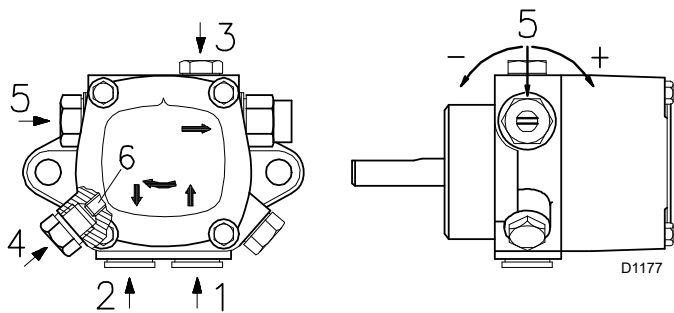
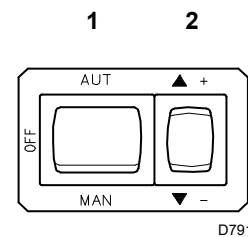

Fig. 25
Fig. 26
Key (Fig. 25)
- In order for self-priming to take place the screw 3) (Fig. 25) of the pump (Fig. 25) must be loosened in order to bleed off the air contained in the suction line.
- Start the burner by closing the control devices, with the switch 1)(Fig. 26) in "MAN" position and switch 10)(Fig. 6) in "OIL" position.
- The pump can be considered primed when the light oil starts coming out of the screw 3)(Fig. 25). Stop the burner: set switch 1)(Fig. 26) to "OFF" and tighten the screw 3)(Fig. 25).